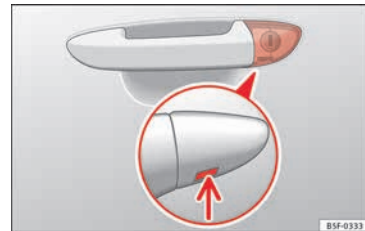

Fig. 3 Driver door lever: hidden lock cylinder.
- Insert the key shaft into the lower opening in the cover on the driver door handle **» Fig. 3** (arrow) then remove the cover upwards.